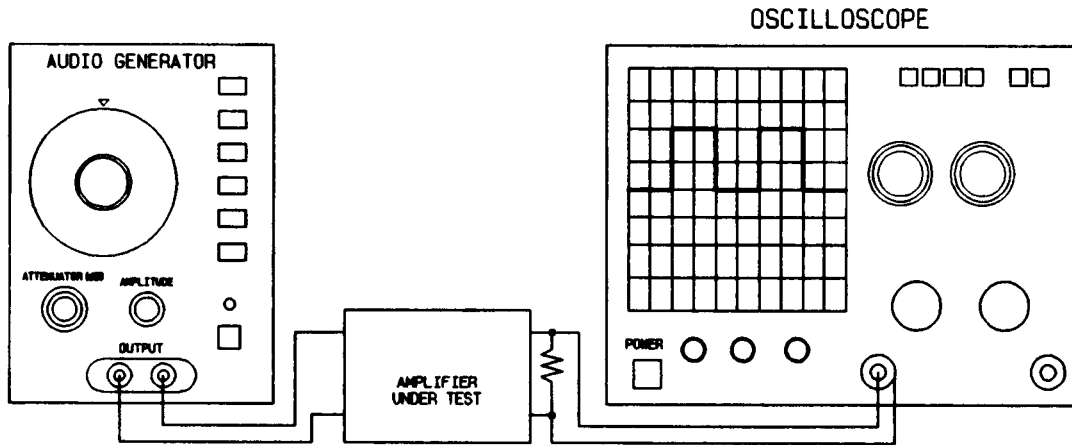

Fig. 7
- 4.1 Connect the instrument, an amplifier to be tested and an oscilloscope as shown in Fig.7.